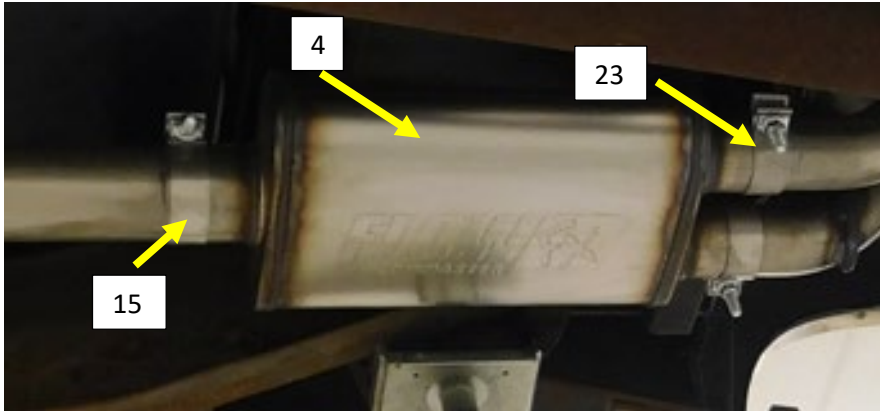

Figure.3
- Install a 3" band Clamp (15) on to the muffler inlet(4). Fig.3
- Install a 2.5" band clamp on to each Outlet of the muffler(23). Fig.3
- Install the 72198-Z Muffler (4) on to the muffler inlet or extension pipe and tighten the 3" band clamp to allow for adjustment. Fig.3
- Install a 2.5" band clamp (23) on to each Outlet of the muffler. Fig.3
- Install the 72198-Z Muffler (4) on to the extension pipe Fig.3. Tighten the clamp to allow for adjustment.